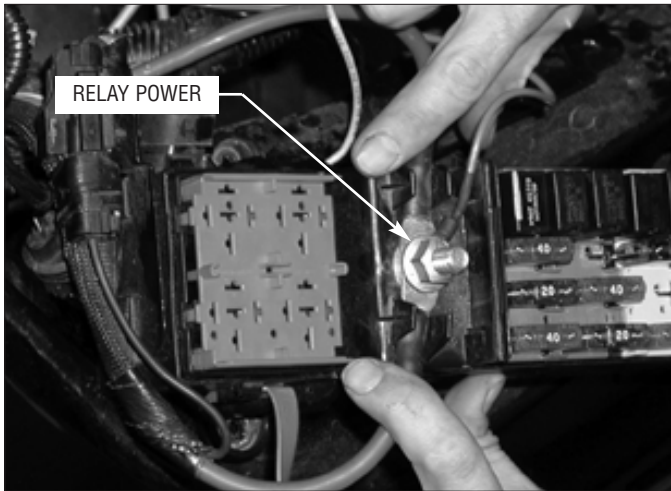

Fig. 11-4
- L. Power to the relay is supplied by a red wire, running from the positive (red) terminal on the fuse box. (See Fig. 11-4.) This wire is attached to the fuse box with the 3/8" ring connector and to the relay with a female disconnect on the 30 terminal relay.